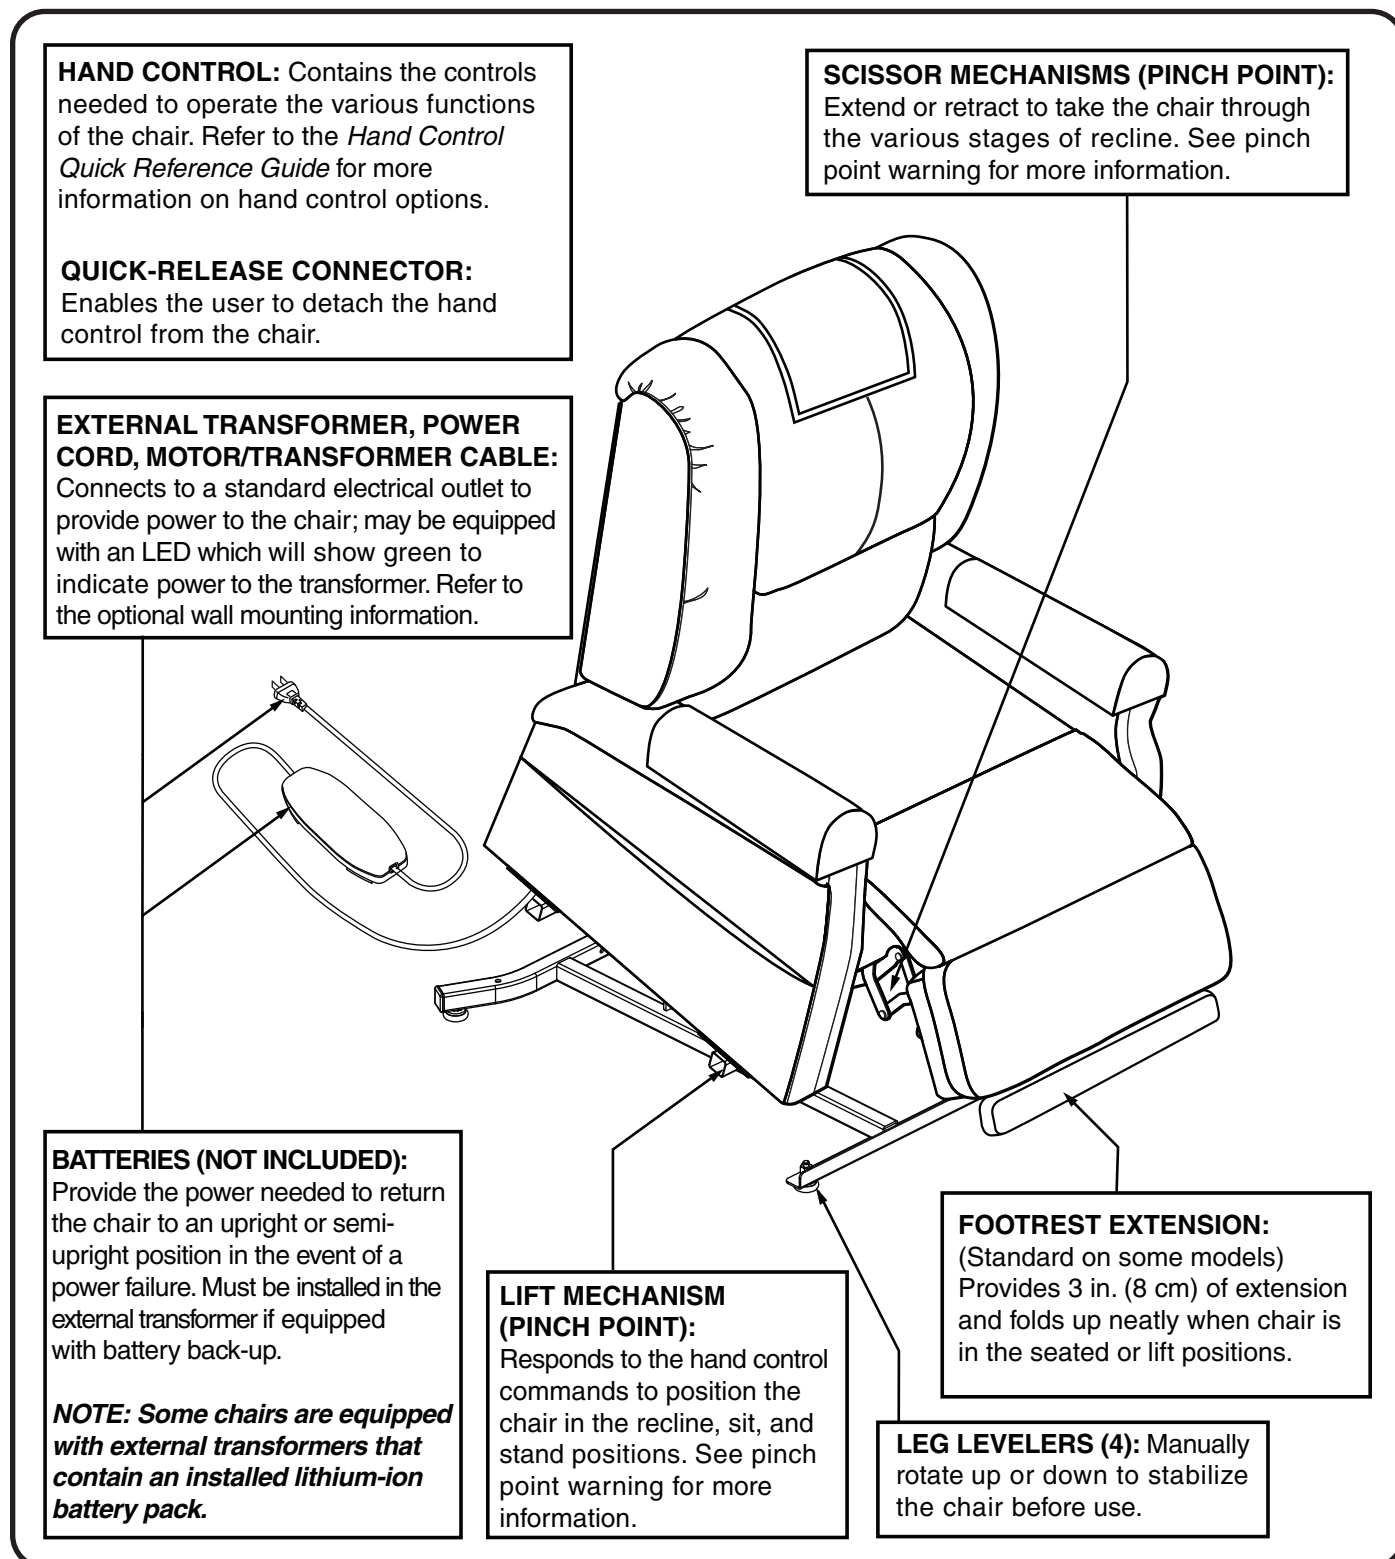

Figure 3.1 Chair Main Components
The scissor and lift mechanisms are labeled as pinch/crush point hazards on your chair. Keep clear of these areas and make sure the path of motion is unobstructed. See **figure 3.1** for pinch/crush point locations.
Chairs are equipped with several frame and electrical components. Typically, frame (or body) components include a removable back, chaise pad*, seat, footrest, leg levelers, a lift frame, and scissor mechanisms. The electrical components include the external transformer with connection cables, hand control, motor, and batteries‡ (not included). Refer to **figure 3.1** and note that the illustrations and options listed may not reflect the type of chair that you own.
2. Adjust the leg levelers to stabilize the chair (**fig. 3.1**).